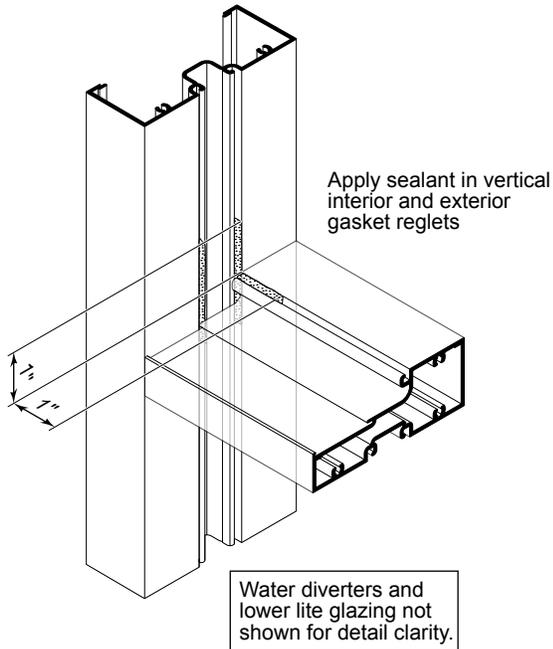

Fig. 34.1
- C. Pump sealant into both vertical gasket reglets, and seal the edges of the diverter on all sides EXCEPT the edge facing the pocket as shown in **Fig. 34.1** on Page 34. You must avoid getting sealant in this area in order to allow the system to drain.